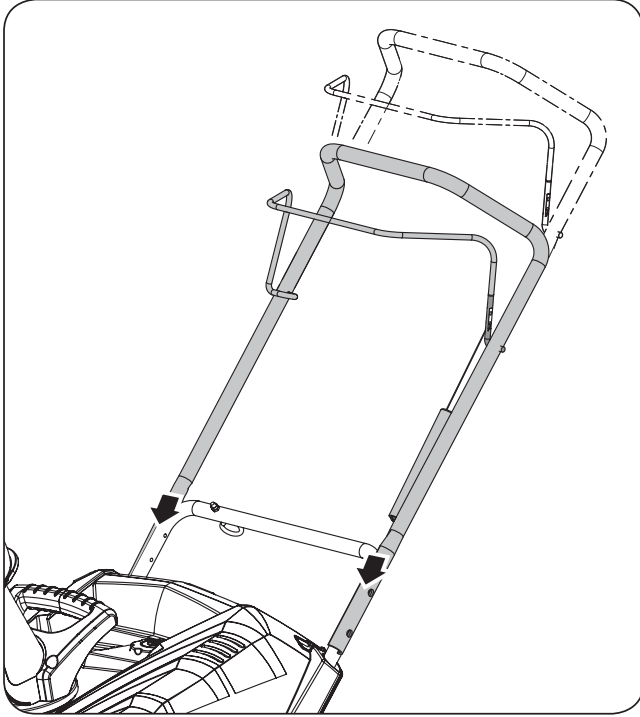

Figure 3a
1. Align the holes in the handlebars and the holes in the lower handle. Note **Figure 3a** below that the handle must face upward to work properly.